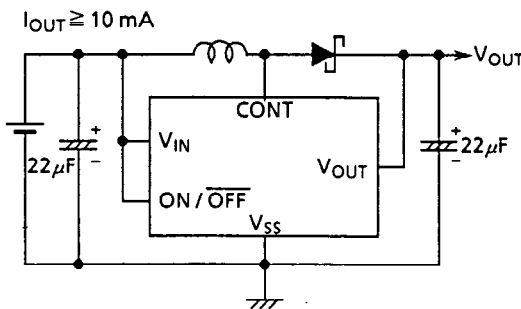
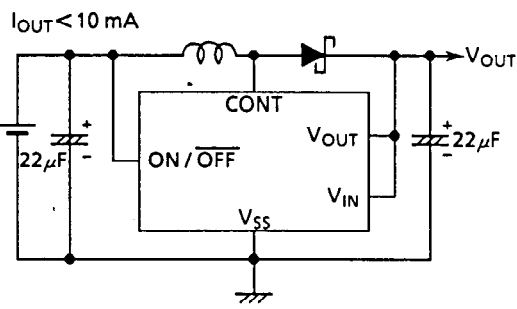

Figure 12
Figure 13
The difference between Figures 12 and 13 is a V_{IN} connection. The connection to be used depends on the purpose. The connection shown in Figure 12 is suitable for high output current ($\geq 10 \text{ mA}$). The connection shown in Figure 13 is suitable for low output current ($I_{OUT} < 10 \text{ mA}$) because minimum operating supply voltages is reduced. (See the supply voltage-output voltage characteristics on the next page. Use RCH855-47 μ H manufactured by Sumida Electric for the coils and D1NS4 for the external diode.)
$V_{IN} \neq V_{OUT}$ (in the circuit shown in Figure 12)
$V_{IN} = V_{OUT}$ (in the circuit shown in Figure 13)
- Do not apply a supply voltage of less than 0.9 V at V_{IN} in the standard circuit shown in Figure 12. If a voltage of less than that is applied, the input current may increase rapidly. The input current may increase rapidly in the application of a low supply voltage and a low load current ($I_{\text{OUT}} = 20 \mu\text{A}$) when the S-8436 series is used.